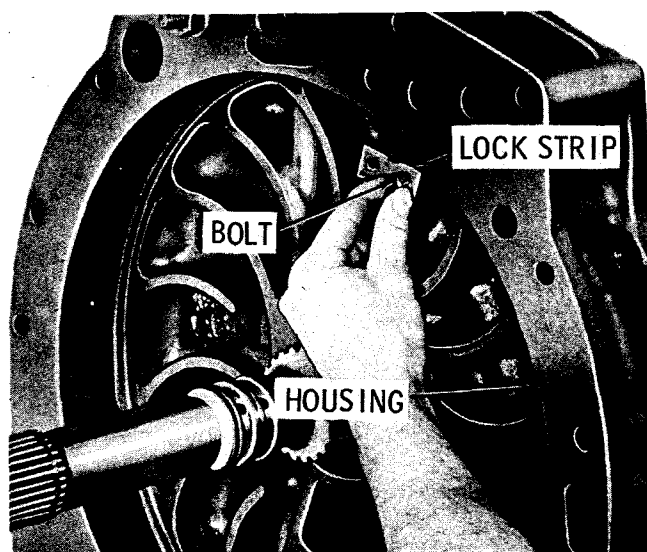
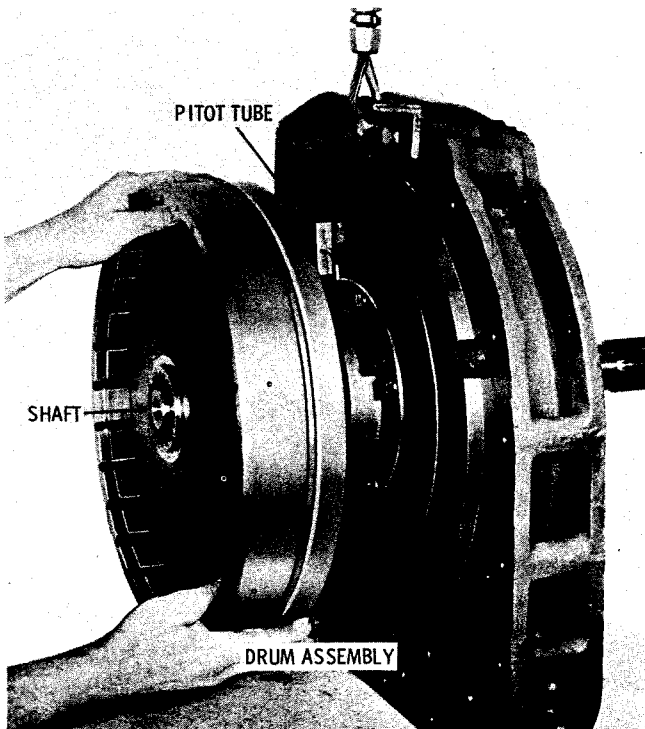

Fig. 7-43. Installing first pitot tube bolt (CBT, CLBT, VCLBT) S1690
Fig. 7-44. Installing low-splitter clutch drum assembly (CBT, CLBT, VCLBT)
(5) Install the lockstrip and one 5/16-24 x 2-inch bolt (fig. 7-43). The bolt must pass through the web of the retarder housing, and be threaded loosely into the pitot tube (fig. 7-44).
(6) Install the low-splitter clutch drum assembly onto the rear of the turbine output shaft (fig. 7-44).